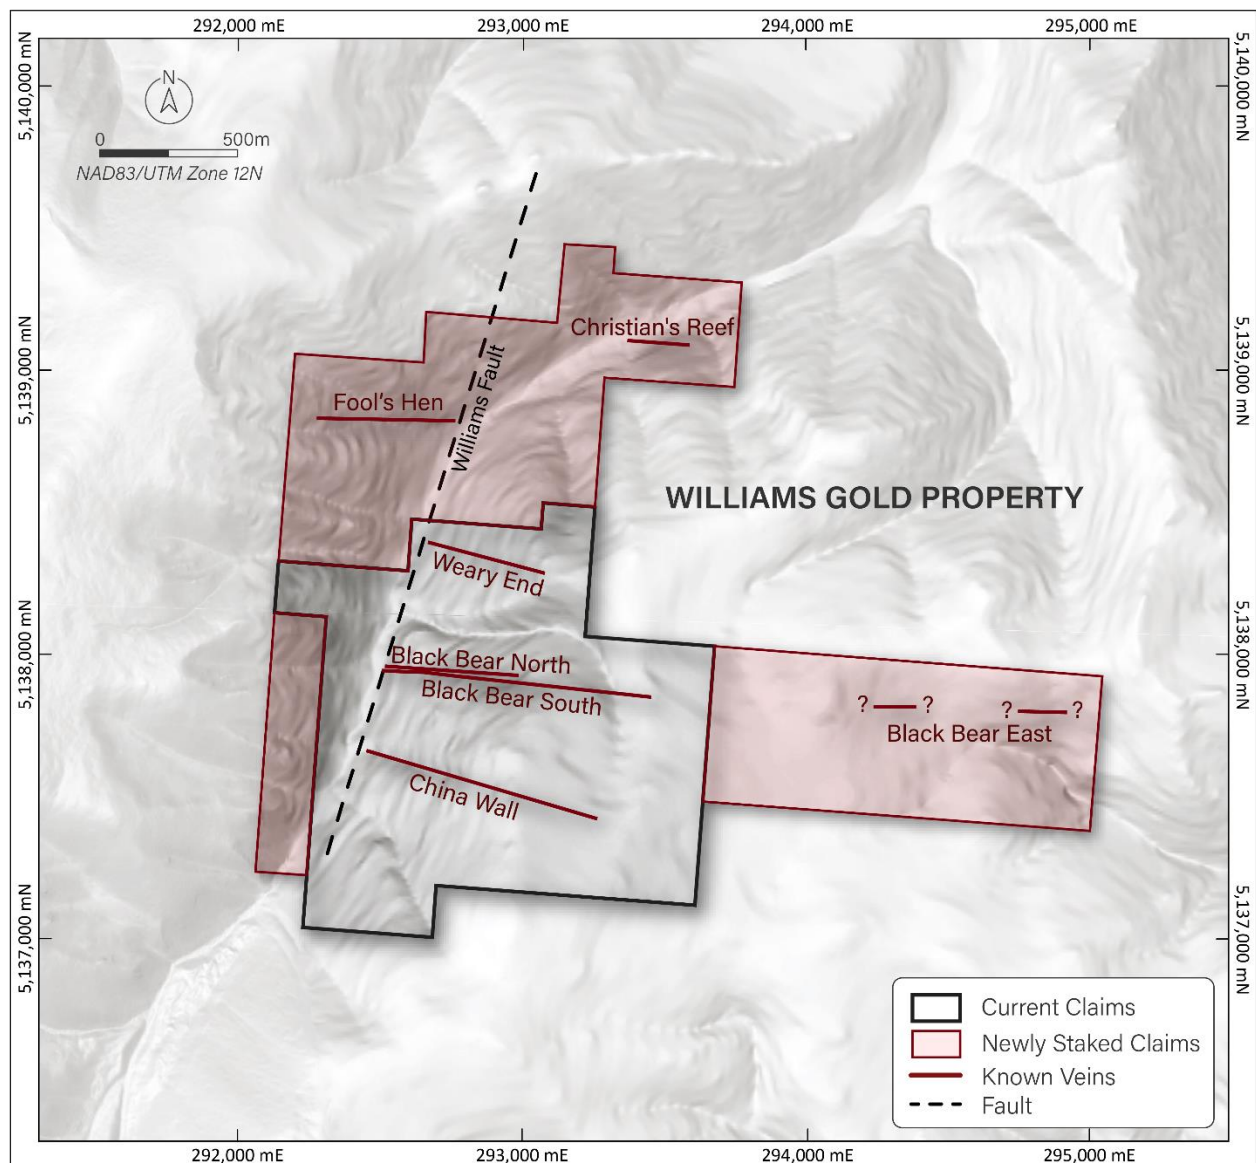

Figure 2. Williams claim map showing previous and newly staked claims which include the Black Bear East prospect, Christian's Reef and Fool's Hen prospects.
- **Strategic claims also encompass additional outcropping veins north-east of the Black Bear system, including Fool's Hen and Christian's Reef, where a recent single grab sample assayed 4.3g/t Au and 30g/t Ag (Figure 2).**
Notably, these validated historical bulk samples include the **101 raise**, which produced **876 tonnes of ore at 141.7g/t Au and 780g/t Ag**, and a further bulk sample from the main 1,666m development level which averaged **17.3g/t Au and 84g/t Ag** (Figure 1). By more than doubling the ground position, AM6 has now captured the additional structural trends with potential to host similar high-grade gold and silver mineralisation (Figure 2).
Previously reported key historical bulk samples from Mark V. in the 1980s include the 101 raise which produced 876 tonnes of ore at 141.7g/t Au & 780g/t Ag and a further bulk sample from the main 1,666m development level averaged 17.3g/t Au & 84g/t Ag (Figure 2). Outside of these, a selection of key individual samples including ~16kg muck, in situ-chip channel and grab samples from Mark V's work in the 1980s is listed below in Table 2 (Refer SQX ASX Announcement; 16/10/2025).